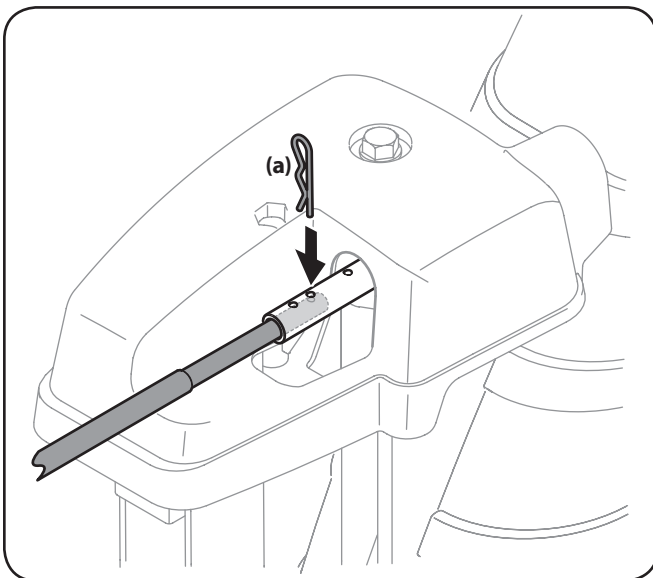

Figure 3-8
6. Push the chute control rod toward the control panel until the hole in the rod lines up with the middle hole in the chute control input and insert the cotter pin (a). See Figure 3-8.